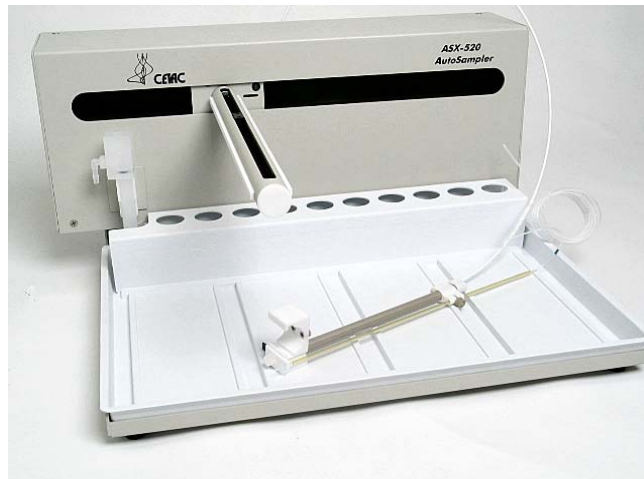

Figure 2-2 Z-drive removed from arm assembly. (Photo shows standard ASX-520 tray with integral standards rack.)
- 3 Remove the entire Z-drive assembly from the Y-arm by pulling the Z-drive assembly forward and off of the autosampler arm as shown (Figure 2-2).